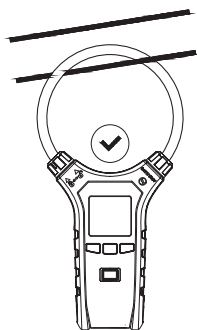

Figure 4
3. Use the measuring head to wrap around the conductor to be measured and lock it in place. (Only one wire can be tested at a time; See Figure 4)